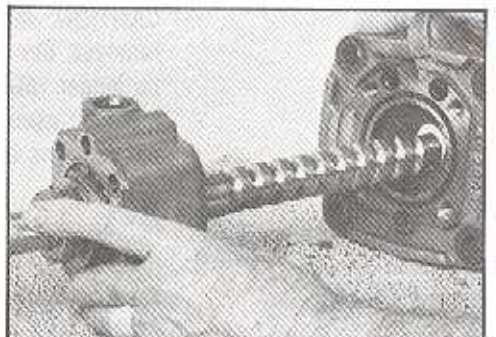

Figure 79
32. Remove adaptor (20) from worm shaft (25B). SEE FIGURE 79. Remove and discard seal ring (8) and two seal rings (119).